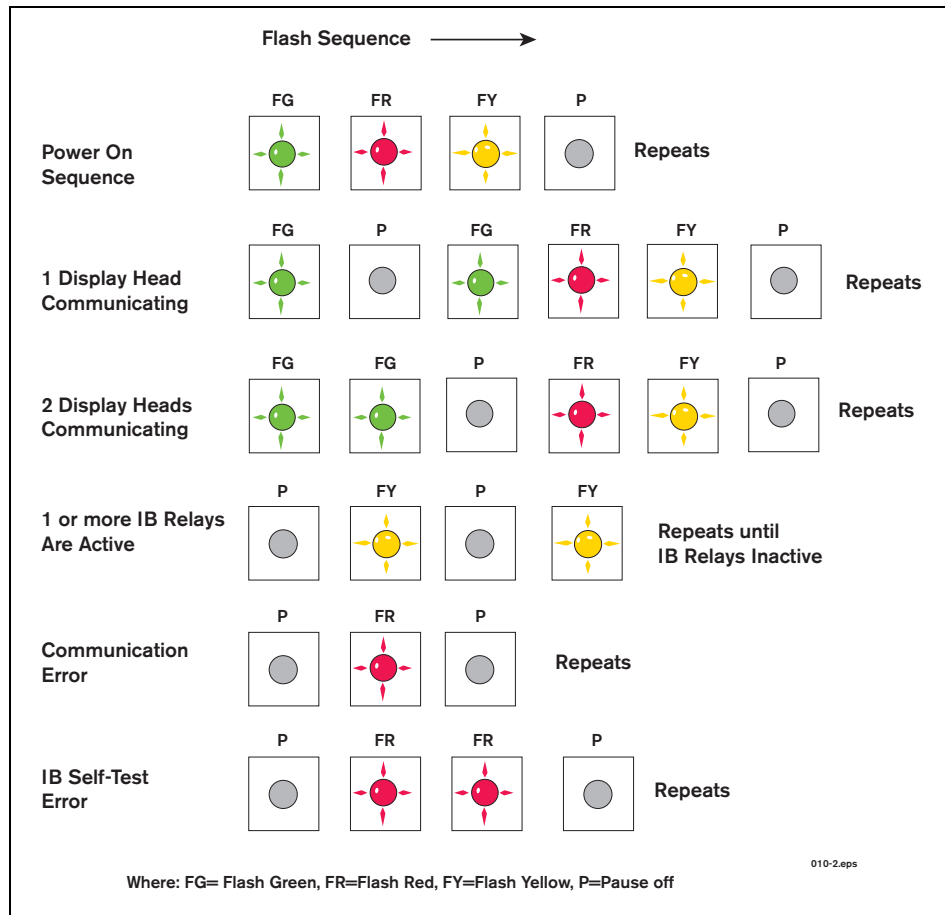

Figure 54. IB Tri-Color LED Status Patterns
- At the IB box, check the tri-color LED, make sure it is flashing – green, pause green, red then yellow, pause then starting again (see Figure 54 for other tri-color LED diagnostics to determine the cause of the failure).